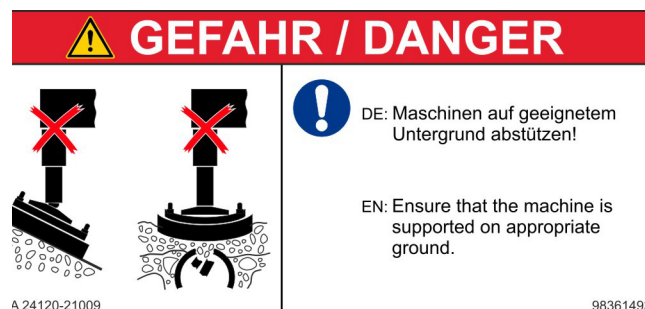

Fig. 25
- Together with the instructor, make sure that the allocated location can readily bear the supporting force of your machine (Fig. 25)